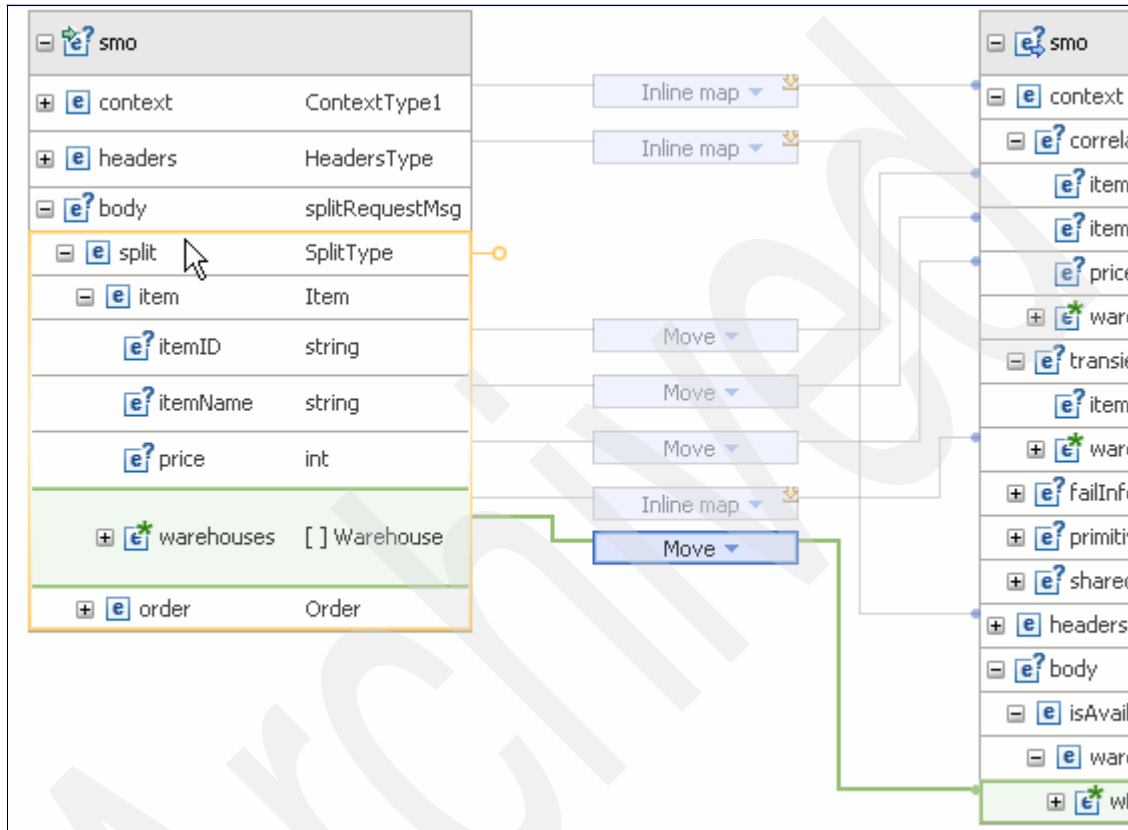

Figure 6-42 Mapping Input warehouses to output body
- h. Now expand **body** → **isAvailable** → **warehouses** in the output message and wire the input message **body** → **split** → **item** → **warehouses** to **body** → **isAvailable** → **warehouses** → **wList**, as shown in Figure 6-42.